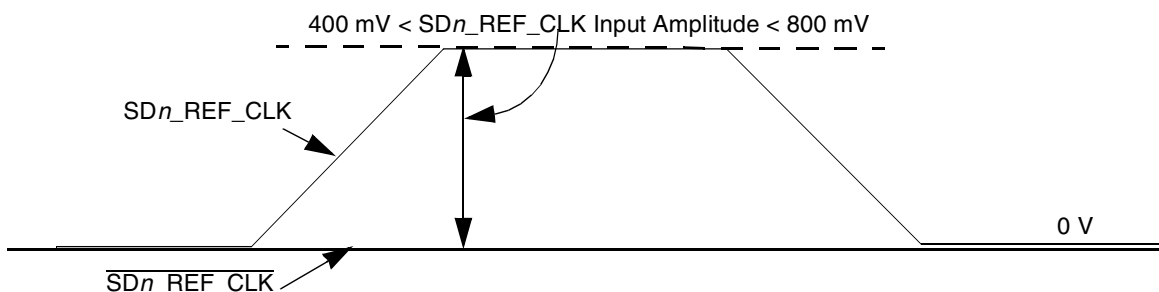

Figure 58. Single-Ended Reference Clock Input DC Requirements
- The SD_n_REF_CLK input average voltage must be between 200 mV and 400 mV. Figure 58 shows the SerDes reference clock input requirement for single-ended signaling mode.